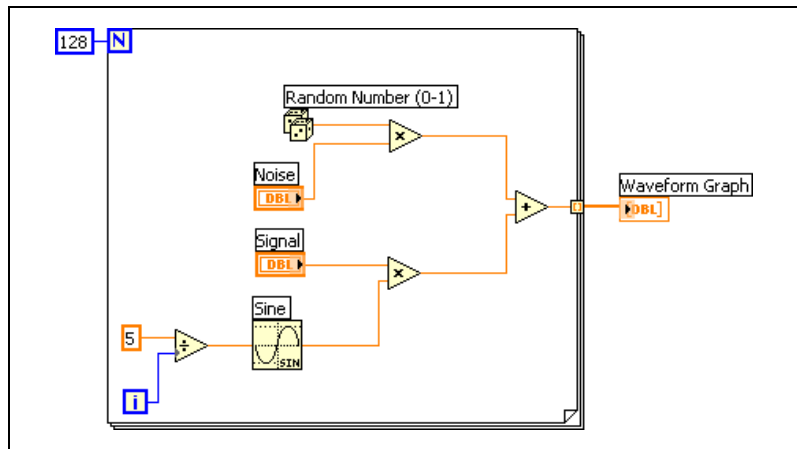

Figure 11. Creating the For Loop
3. Right-click the count (N) terminal and select **Create Constant** from the shortcut menu. Enter 128 to execute the code 128 times. This tutorial uses 128 to keep the data set manageable, but you can experiment with different values.
4. Wire the **x+y** output of the Add function to the Waveform Graph indicator outside of the For Loop as shown in Figure 11.